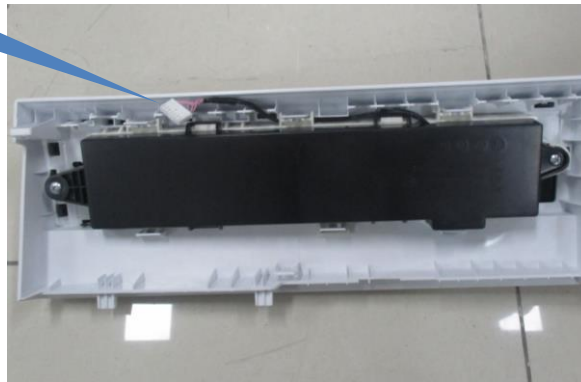

Fig.3
- ① Check whether the display panel communication terminal is damaged, if it's damaged the E82 warning will occur. It's recommended that the user need to repair or change the display panel.(Fig.3)